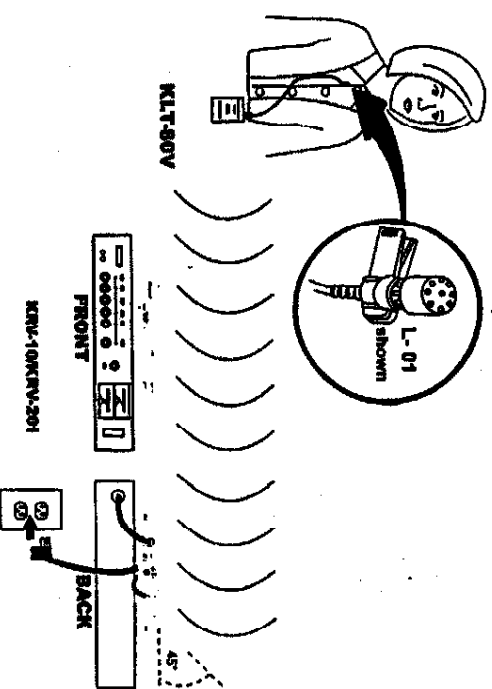

FIGURE 8
1. Refer to Figure 8. Connect the supplied ac power adapter into the DC INPUT connector on the back of the receiver. Insert the adapter's cable into the power cable retainer. ("suit of KRV-10") Plug the adapter into a wall socket or other AC power source (use HD41N110 for 220VAC, 50Hz power, use HD41N110I for 120V AC, 60Hz power). Push the power switch on the face of the receiver the red POWER light will glow.
4. Press the L-01 leveler microphone into the mounting clip and attach it to your garment. Do not cover the microphone with your clothing, and keep it approximately 8 to 20 inches below your chin. (See Figure 8) Insert the other side into audio socket and fully rotate.